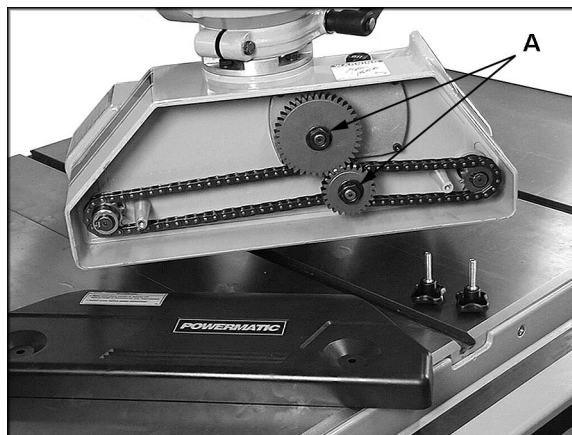

Figure 12
2. Unscrew the two knobs and pull off the back cover to expose the gear system, shown in Figure 12.
3. Remove hex nuts and flat washers (A, Figure 12) with a 14mm wrench.
6. Install flat washer and hex nut (A, Figure 12) on each shaft, and tighten.
Lubricate the drive chains (shown in Figure 12) with good quality all-purpose grease every 3 months, or more frequently if needed.